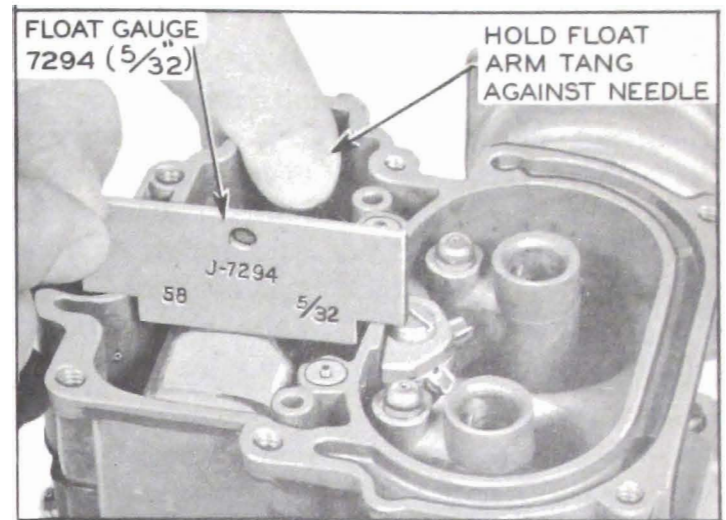

Figure 3-72—Float Level Adjustment
NOTE: There are no lead gaskets under nozzles in this carburetor. See figure 3-72.
9. Hold float arm tang against float needle; then check float level using Float Gauge J-7294 ( $\frac{5}{32}$ " (without gasket)). See figure 3-72. If top